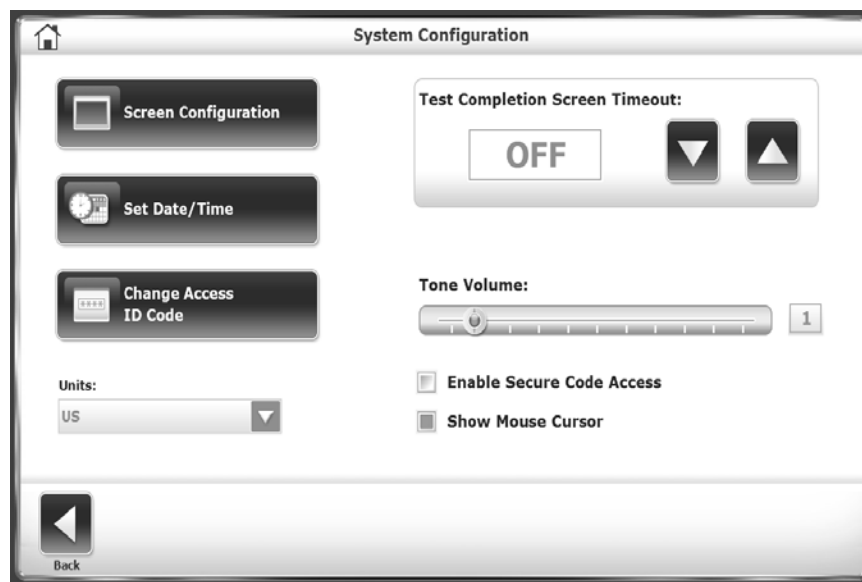

Figure 2.4. System Configuration Screen.
5. Select display options and set values for actions (see Figure 2.4).